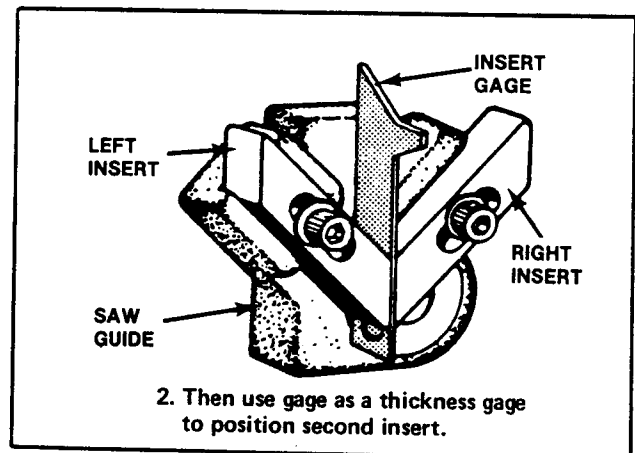

FIG. 10. POSITIONING LEFT INSERT. UPPER GUIDE BLOCK SHOWN.
- (2) Select insert gage matching saw band. Place gage in slot. Adjust insert to fit exactly into gage notched end. Tighten insert screw.
- (3) Place left insert in slot. Tighten screw lightly. Place gage edgewise between both inserts. Lower insert until it rests against gage. Tighten screw. See Fig. 10.